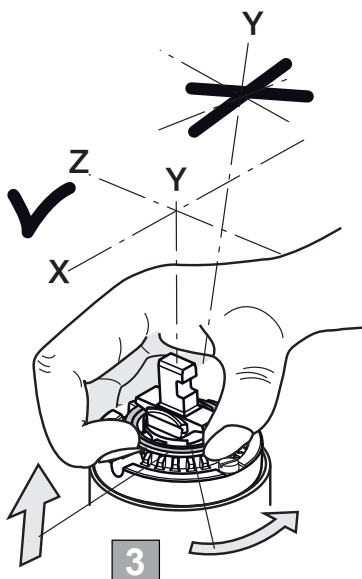

Fig.9c
4. Reposition the red temperature limiting ring on the new cartridge to the same position as the old cartridge. See figs 9c & 9e.